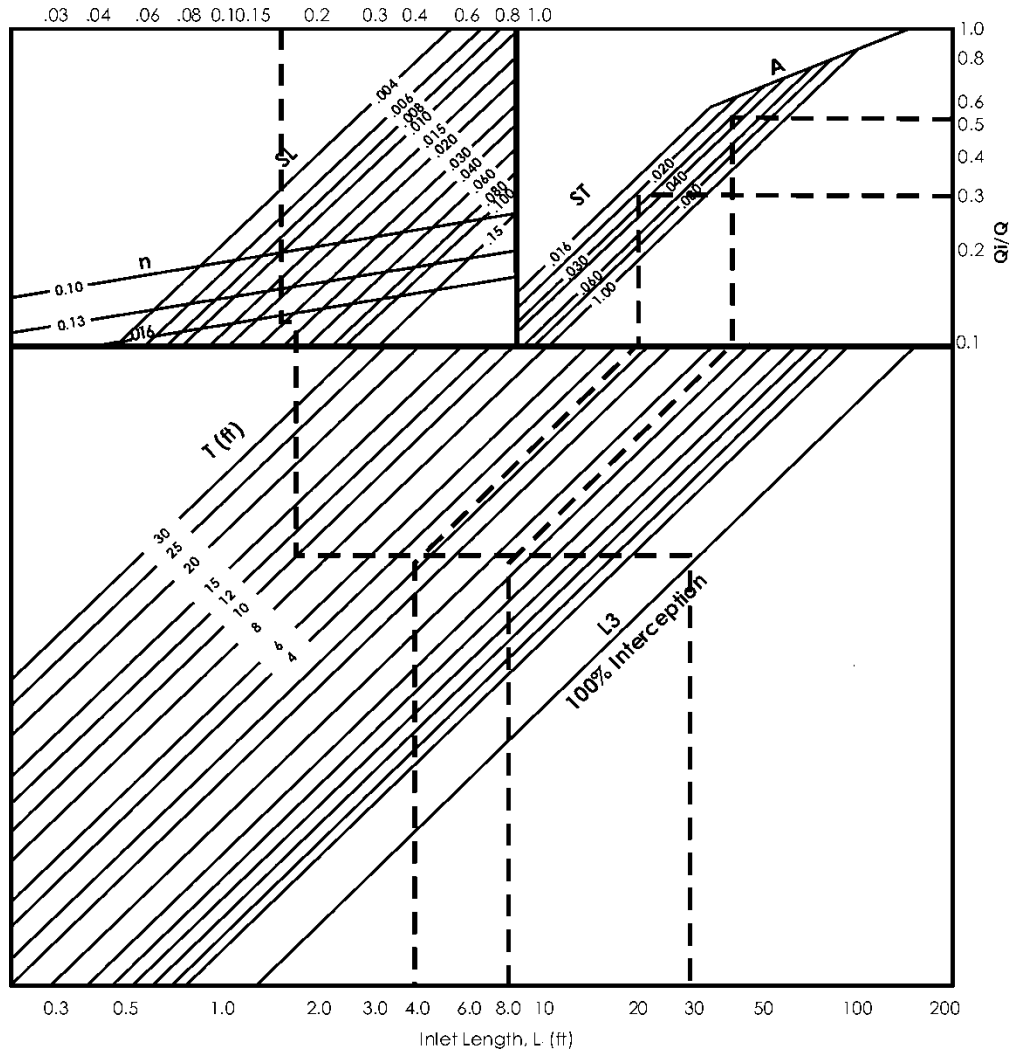
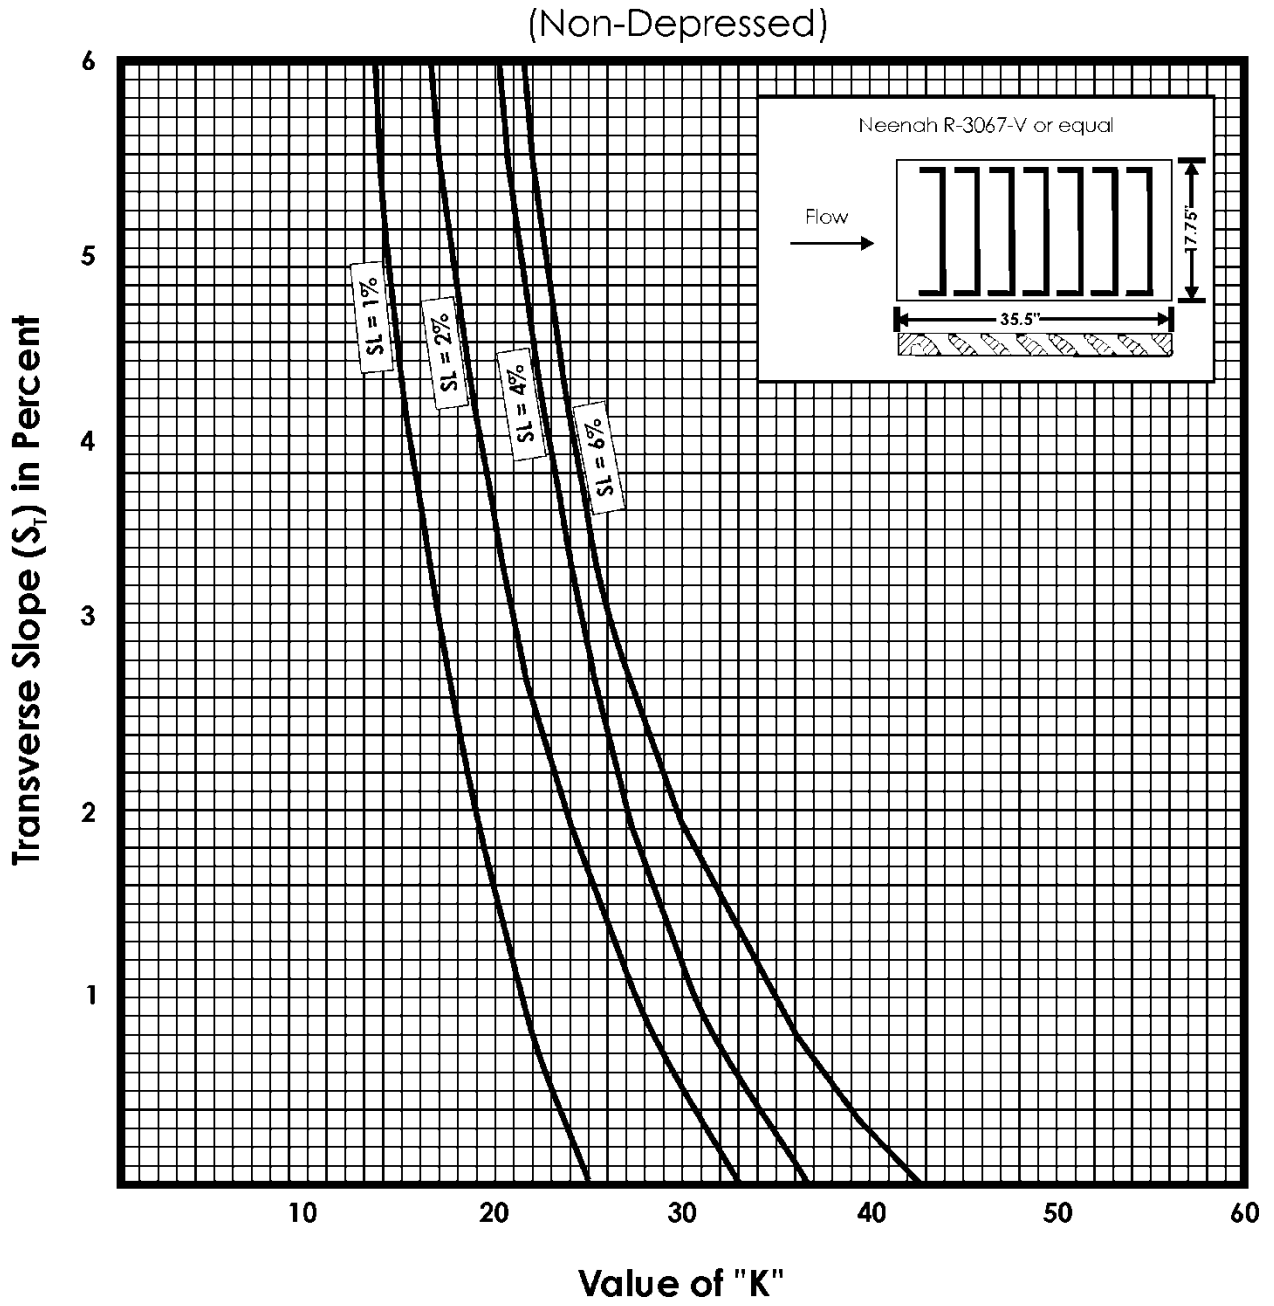

Figure 3: “K” Values for Standard Type SW-501, 502, 503, 504, 505, and 506 Intakes - Vane Grate and Curb Hood
Figure 4: "K" Values for Driveway Grate Intake
K = Value Used in Equation $Q = Kd$ (See Figures 3 and 5)
Figure 3 is used to determine "K" for a vane grate and includes the curb hood. Figure 4 gives "K" for a driveway condition where no curb hood can be used. The appropriate reduction factor from Table 1 must then be applied to obtain the actual flow intercepted by the intake.
Figure 3 is used to determine "K" for a vane grate and includes the curb hood. Figure 4 gives "K" for a driveway condition where no curb hood can be used. The appropriate reduction factor from Table 3 must then be applied to obtain the actual flow intercepted by the intake.
- 1) Enter Figure 3 with the transverse slope ($S_T = 2.0\%$)